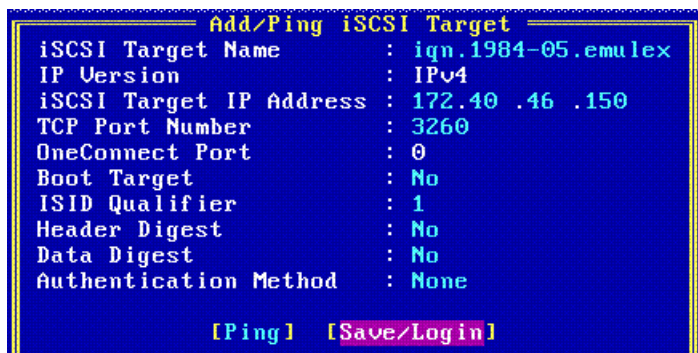

Figure 9-2 Add/Ping iSCSI Target dialog box
- Select **Add New iSCSI Target** and press **<Enter>**. The Add/Ping iSCSI Target dialog-box is displayed (Figure 9-2).